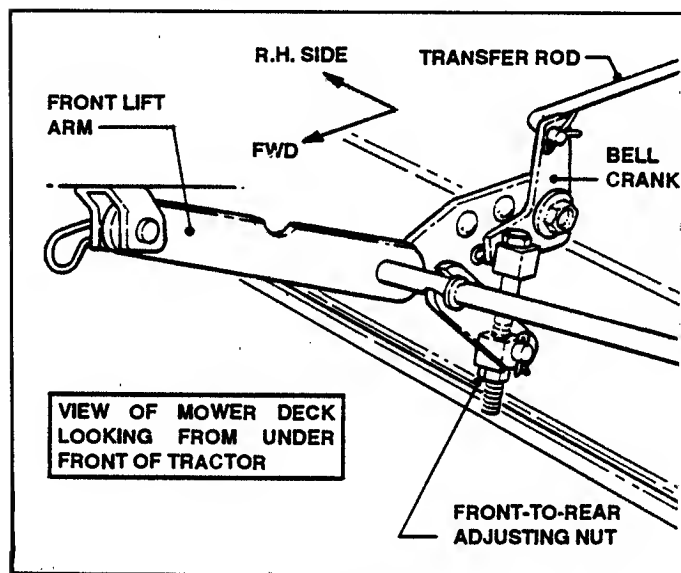

FIGURE 44
- A. Looking at the mower deck from under the front of tractor, the front-to-rear adjusting nut can be seen as shown in Figure 44.